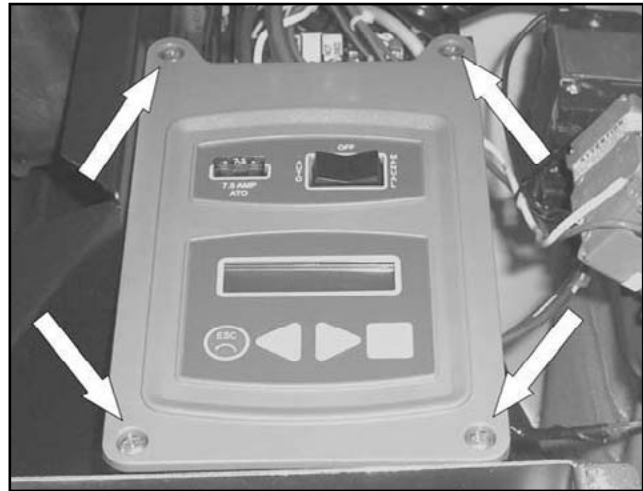

Figure 3.
2. Remove controller: Using a Phillips screwdriver remove the four mounting screws from the controller. See Figure 3.